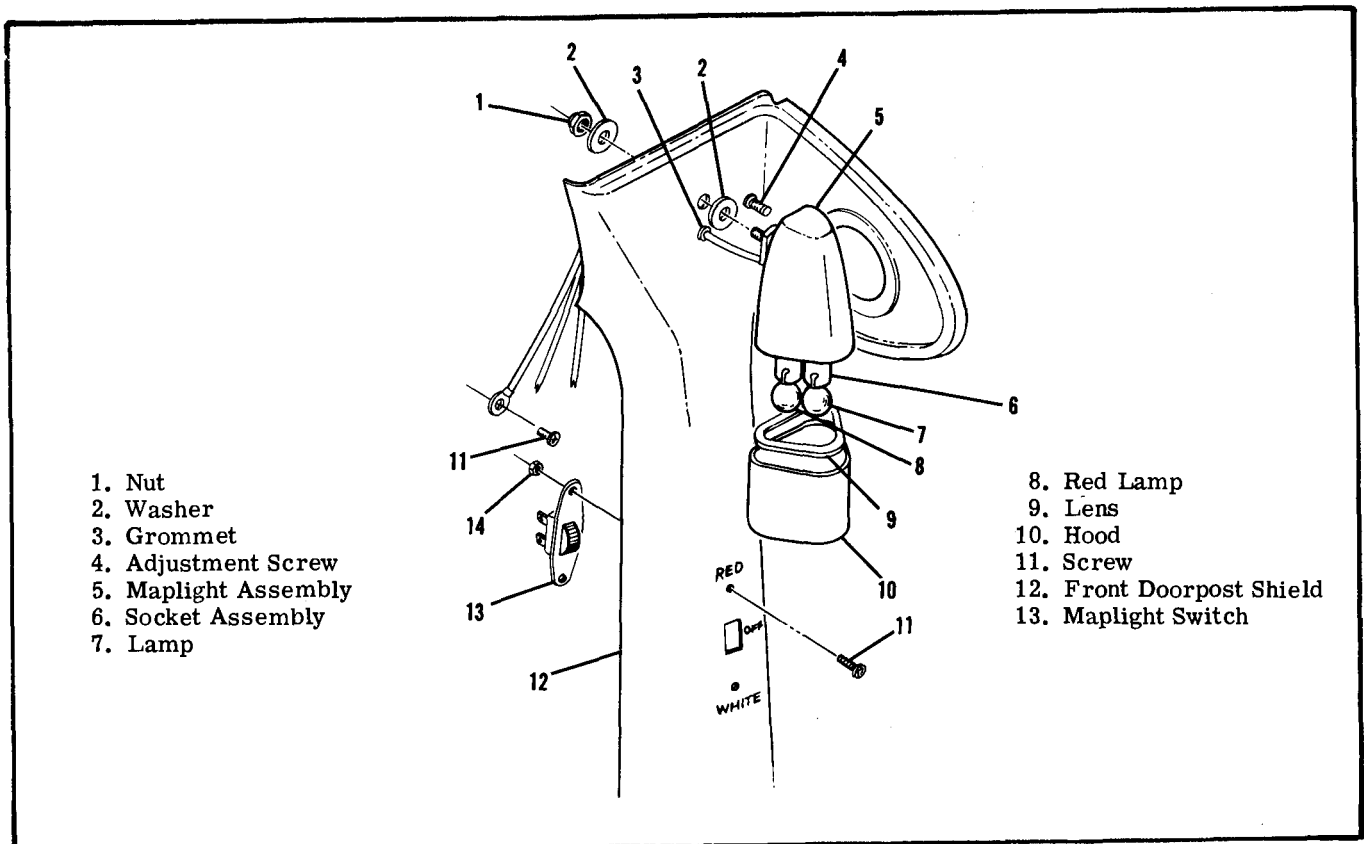

Figure 16-10. Map Light Installation
**16-80. REMOVAL AND INSTALLATION.** (Refer to figure 16-10.)